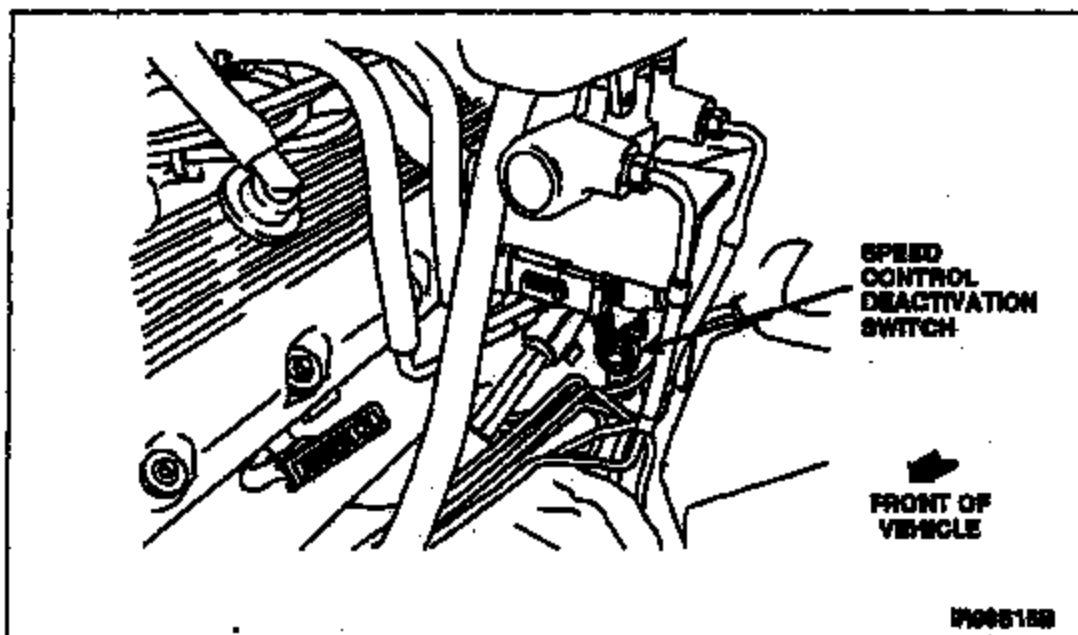

FIGURE 2
3. Disconnect the electrical connector from the speed control deactivation switch. See Figure 2.